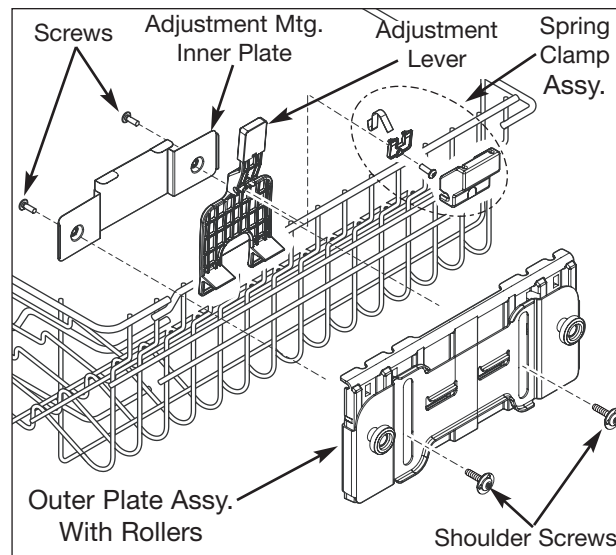

Figure 5-15. Top Basket Removal
3. The adjustment assembly is removed by extracting the two screws from the inner and two shoulder screws from the outer plates. (See Figure 5-15)